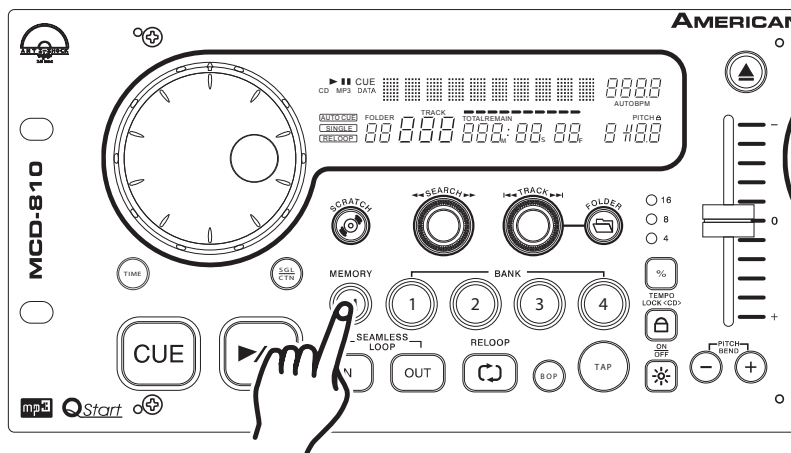

Figure 37
- 2) Press the *IN BUTTON* (21) (Figure 37) at the point you want your BOP to take place.